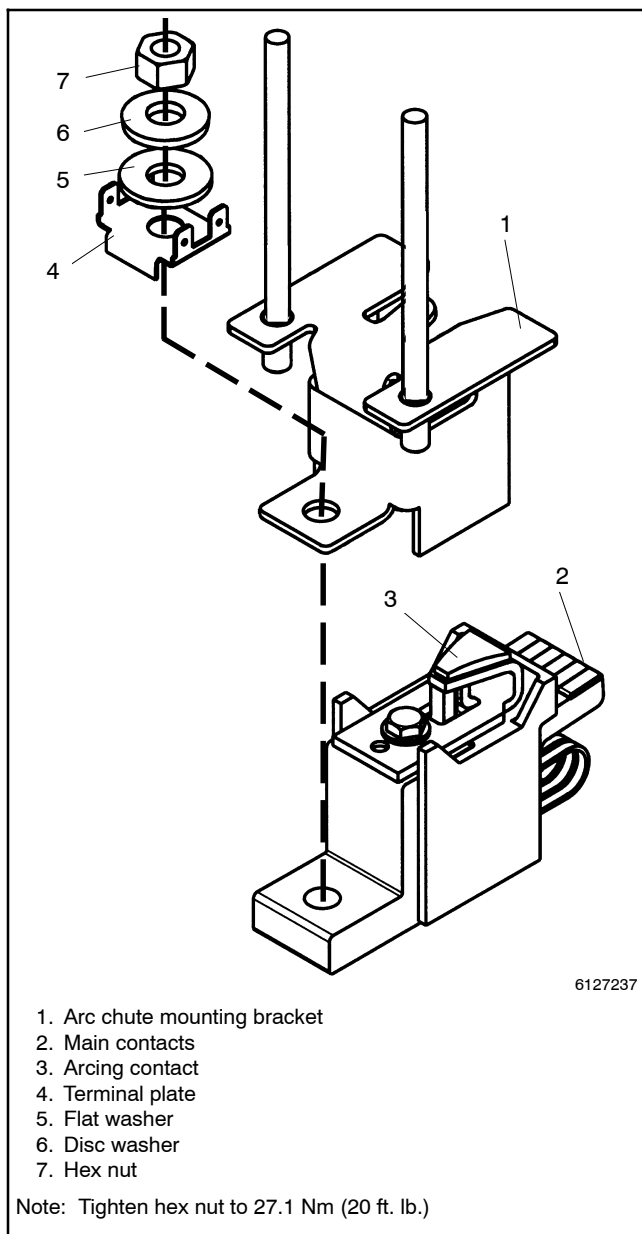

Figure 8-14 Stationary Contact Assembly
1. Remove the stationary contact assembly. Use a 3/8 in. socket wrench with 12 in. extension to remove the hex nut from the base of the stationary contact assembly. Then remove the washers, quick connect terminal plate, and stationary contact assembly from the stud in the bus plate. See Figure 8-14.
2. Install the new stationary contact assembly. Make sure the bus plate and contact assembly surfaces are clean (do not use any abrasive). Position the new stationary contact assembly onto the stud in the bus plate. Use a 3/8 in. socket wrench with 12 in. extension to install the new quick connect terminal plate, new heavy flat washer, new heavy disc washer (curved surface out), and new 3/8 in. hex nut to secure the assembly. Tighten to 27.1 Nm (20 ft. lb.) torque. See Figure 8-14.